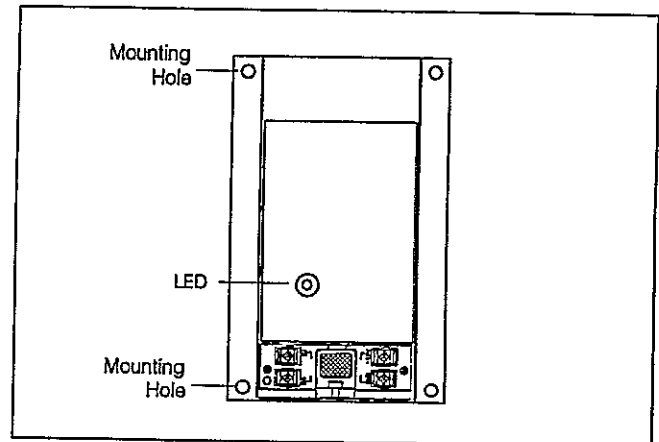

Figure 2 - Base and Mounting Holes
2. Mount the base of the unit in the desired location using the four mounting holes (see Figure 2).